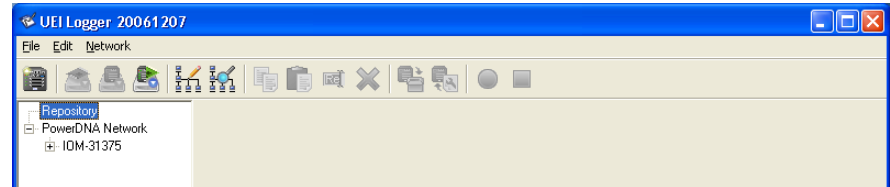

Figure 2-13. Scan Network Screen
STEP 3: Pull down the Network Menu and click on “Scan Network.” as shown in **Figure 2-13**.